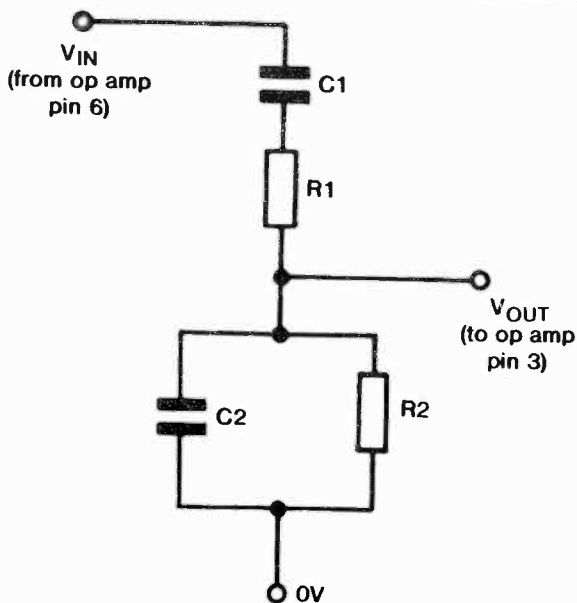
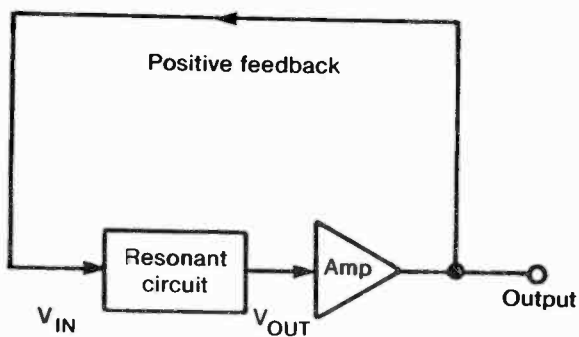

Fig. 38 The resonant circuit from Figure 37.
Fig. 39 Principle of a harmonic oscillator.
**How it works:** this is a Wien bridge oscillator, based on an operational amplifier. The Wien bridge oscillator is a *harmonic oscillator* (compare with Module 25 which is a relaxation oscillator) the heart of which is a resonant circuit. Figure 38 shows the resonant circuit separately. Its resonant frequency (the frequency at which it naturally oscillates) is determined by the values of the resistors and capacitors (see *Modifications* below). If a sine-wave input signal  $V_{IN}$  of the correct frequency is applied to this circuit, the circuit resonates and produces an output signal  $V_{OUT}$  of the same frequency. The circuit has the properties that  $V_{OUT}$  is in phase with  $V_{IN}$  ( $V_{OUT}$  increases when  $V_{IN}$  increases and *vice versa*), and is exactly one-third of  $V_{IN}$ . The amplifier is adjusted (by setting VR1) so that its gain is slightly greater than 3 (i.e. the value set on VR1 is just over 81k, three times the value of R3). Since  $V_{OUT}$  is fed to the non-inverting input of the amplifier (see Module 33), this provides positive feedback, keeping the circuit in oscillation (Fig.39). The output of the amplifier is *just over* 3 times  $V_{OUT}$  to allow for the small part of the signal being fed via C3 to the next module.